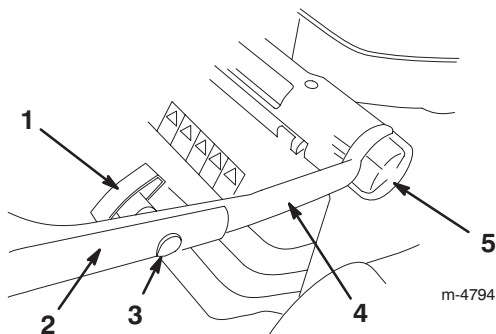

Figure 2
2. Loosen the handle height adjustment knobs and rotate the lower handle rearward until it seats into one of the handle height settings as shown in Figure 2.
4. Install the upper handle section onto the lower handle section with the oval-head bolts and the handle knobs as shown in Figure 2. *Tighten the handle knobs securely.*
You can set the handle to three height settings: high, medium, and low (Fig. 2). Select the handle height setting most comfortable for you.